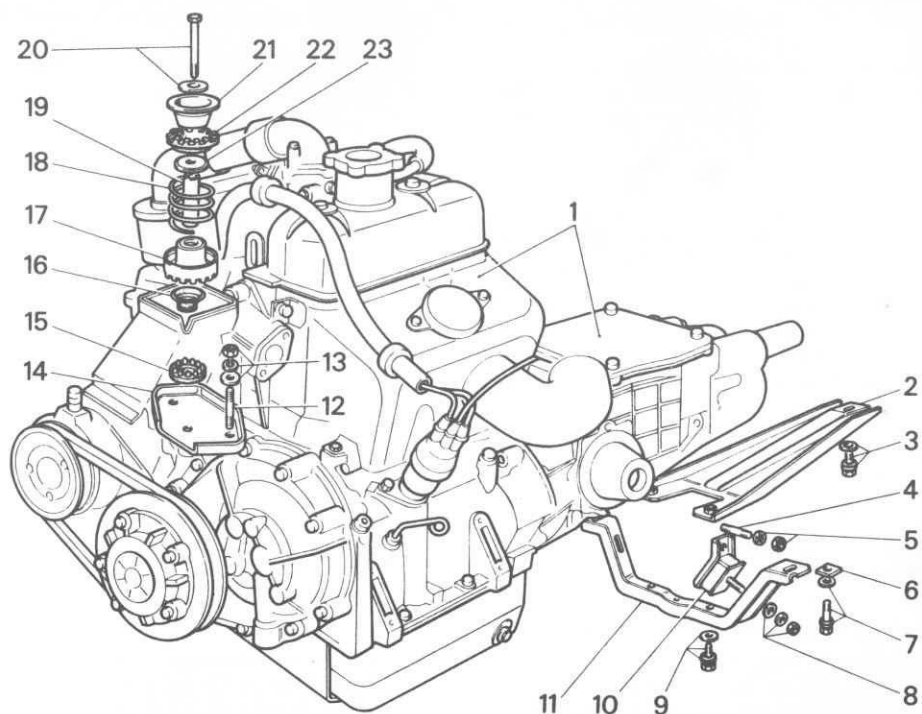

FIG 1 : 28 Details of the flexible mountings for the power unit
- 1 Fit new gaskets throughout (see FIG 1:7). With pistons and connecting rods fitted to their respective cylinder barrels, refit the barrels to the crankcase on new gaskets. If the holding-down studs were removed, these must be refitted before the barrels are inserted. Fit tubes or Fiat tool A.60156 to hold the cylinders in place.
Key to Fig 1 : 28 1 Power unit 2 Bracket 3 Bolt, flat and lockwashers 4 Stud 5 Nut and lockwasher 6 Plate
- 2 Fit the top-half shells to the connecting rods, making sure that the lugs are correctly located in the grooves in the rods. This will also apply to the caps. Slide the crankshaft into place, lubricate the journals and fit the main bearing supports (see FIGS 1 : 2 and 1 : 26). There is a gasket under the support at the flywheel end. Tighten the screws to 22 lb ft (3 kgm). Check that the crankshaft turns freely.